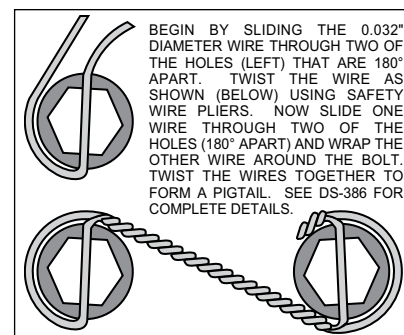

Figure 3. Safety Wire Diagram
- The caliper mount bracket assembly (1) should be installed first with clean, dry threads on the mounting bolts. Install the bracket by sliding bolt (4) through washer (2) from the back side through the lower caliper mounting ear on the spindle. Slide bolt (3) through washer (2) from a 90° degree angle on the upper portion of the steering arm. The bracket must tighten squarely against the outboard side of the caliper mount bosses on the spindle body. Inspect for interference from casting irregularities, machining ridges, burrs, etc. Later, after the caliper, pad, and rotor alignment has been checked, and any necessary shims have been put in place, the threads of the mounting bolts should be coated with red *Loctite*® 271 and torqued to 65 ft-lbs.
- Install wheel studs (5) into the hub (6). Torque to 77 ft-lb. **NOTE:** There are two (2) five lug patterns in the hub (5 x 4.50 and 5 x 4.75). Make sure of the correct hole pattern for the correct wheel application before installing studs into hub.
- Pack the large inner bearing cone (7) with high temperature disc brake bearing grease (available from your local auto parts store) and install into the backside of the hub (6).
- Install the grease seal (8) by pressing into the backside of the hub (6).
- Pack the small outer bearing cone (14) with high temperature disc brake bearing grease and install into front of hub (6). Slide the hub assembly (5, 6, 7, 8 and 14) onto the spindle. Secure using spindle washer (15), stock adjusting nut and nut locking device. Adjust bearing using a 12" wrench to tighten the adjusting nut while turning the rotor. When the rotor binds slightly, all the bearing parts are seated properly. Back of the nut 1/6 to 1/4 of a turn or enough to allow 0.001 to 0.007 end play. Lock the nut with a new cotter pin. **WARNING:** Failure to back off the adjusting nut may cause the bearing to run hot and be damaged, which could cause the wheel to lock or come off during operation, creating a risk of serious bodily harm.
- Install the o-ring (16) on the dust cap (17), and screw dust cap assembly onto the hub (6). Friction created by the o-ring (16) on the dust cap (17) keeps it from unscrewing.
- With the larger I.D. side of the rotor (9) facing away from the hat (10), bolt rotor (9) to hat(10) through the backside of the rotor using washers (11) and bolts (12). Apply red *Loctite*® 271 to the bolt threads and torque to 155 **in-lb** using a criss-cross pattern. For an added measure of security, the bolts may be safety wired using standard 0.032 inch diameter stainless steel safety wire as shown in Figure 3. Please refer to Wilwood's data sheet DS-386 (available at [www.wilwood.com/Pdf/DataSheets/ds386.pdf](http://www.wilwood.com/Pdf/DataSheets/ds386.pdf)) for complete safety wire installation instructions.
- Slide the rotor/hat assembly over the studs (5) in the hub (6) taking care to align the small countersunk holes in the hat (10) with the small threaded holes in the hub (6). Install three flat head socket head screws (13) through the small holes in the hat (10) and torque to 85 **in-lb**.